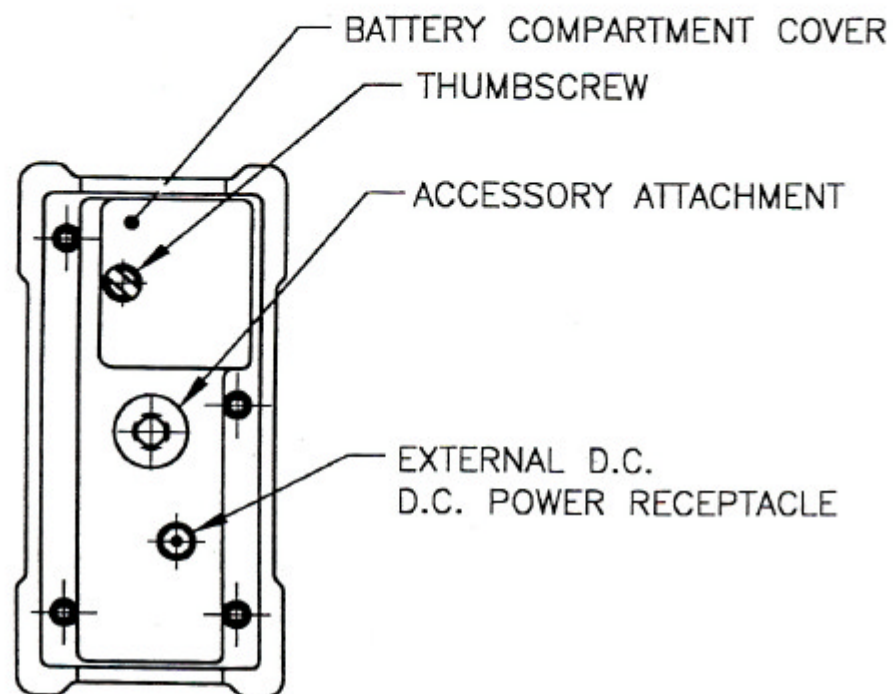

Figure 3 — BOTTOM BASE (MODEL pDR-1000AN)
- Tripod mounted. The unit can be attached to any standard tripod using the threaded bushing on the bottom of the monitor (see Figure 3).
Refer to Figures 3 (for model *pDR-1000AN*) or 4 (for model *pDR-1200*). The base of the *personalDataRAM* contains the following: a) internal battery compartment cover, b) external DC power input receptacle, and c) threaded bushing for the attachment of optional battery pack, tripod, or other mounting / support hardware.
- Loosen thumbscrew that secures the battery compartment cover (see Figure 3 or 4), and remove that cover.
A universal line voltage AC to DC power supply (MIE model *pDR-AC*) is provided as standard accessory with the *personalDataRAM*. This power supply can be used with any line with a voltage between 100 and 240 VAC (50 to 60 Hz). When using that power supply, its output plug should be inserted into the external DC receptacle at the base of the *personalDataRAM* (see Figure 3 or 4). Insertion of that connector automatically disables the internal 9V battery of the instrument. Removal of the *pDR-AC* plug from the instrument automatically re-connects the internal 9V battery.